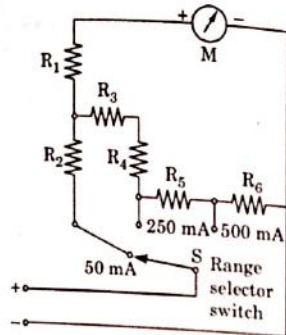

Fig. 4.7.2.
2. The Fig. 4.7.2 shows the arrangement used in the multimeter to use it as an ammeter.